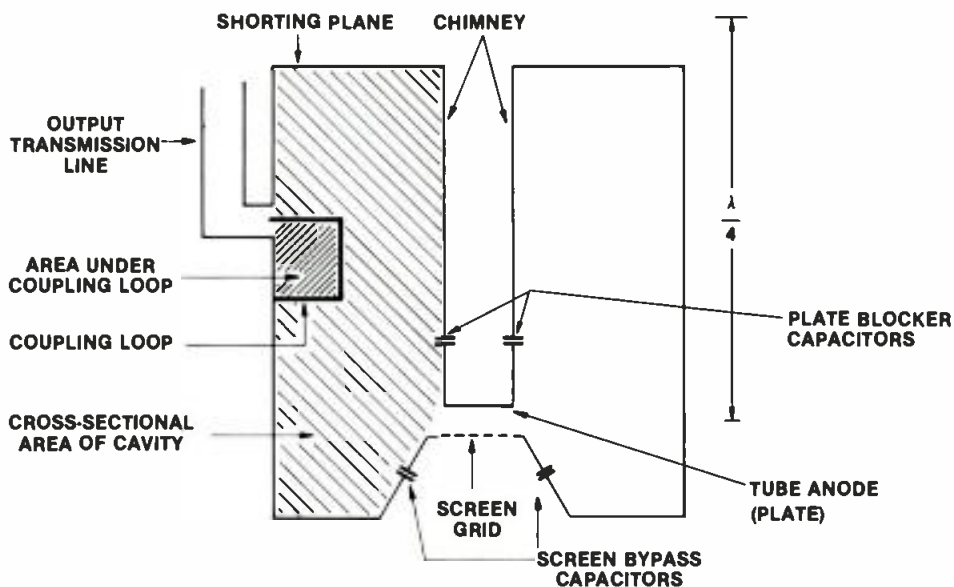

Figure 10. The use of inductive coupling in a 1/4-wavelength PA stage.
- (1) The cross-sectional area under the coupling loop, compared to the cross-sectional area of the cavity. (See Figure 10.) This effect can be compared to the turns ratio principle of the transformer.
- (2) The orientation of the coupling loop to the axis of the magnetic field. The